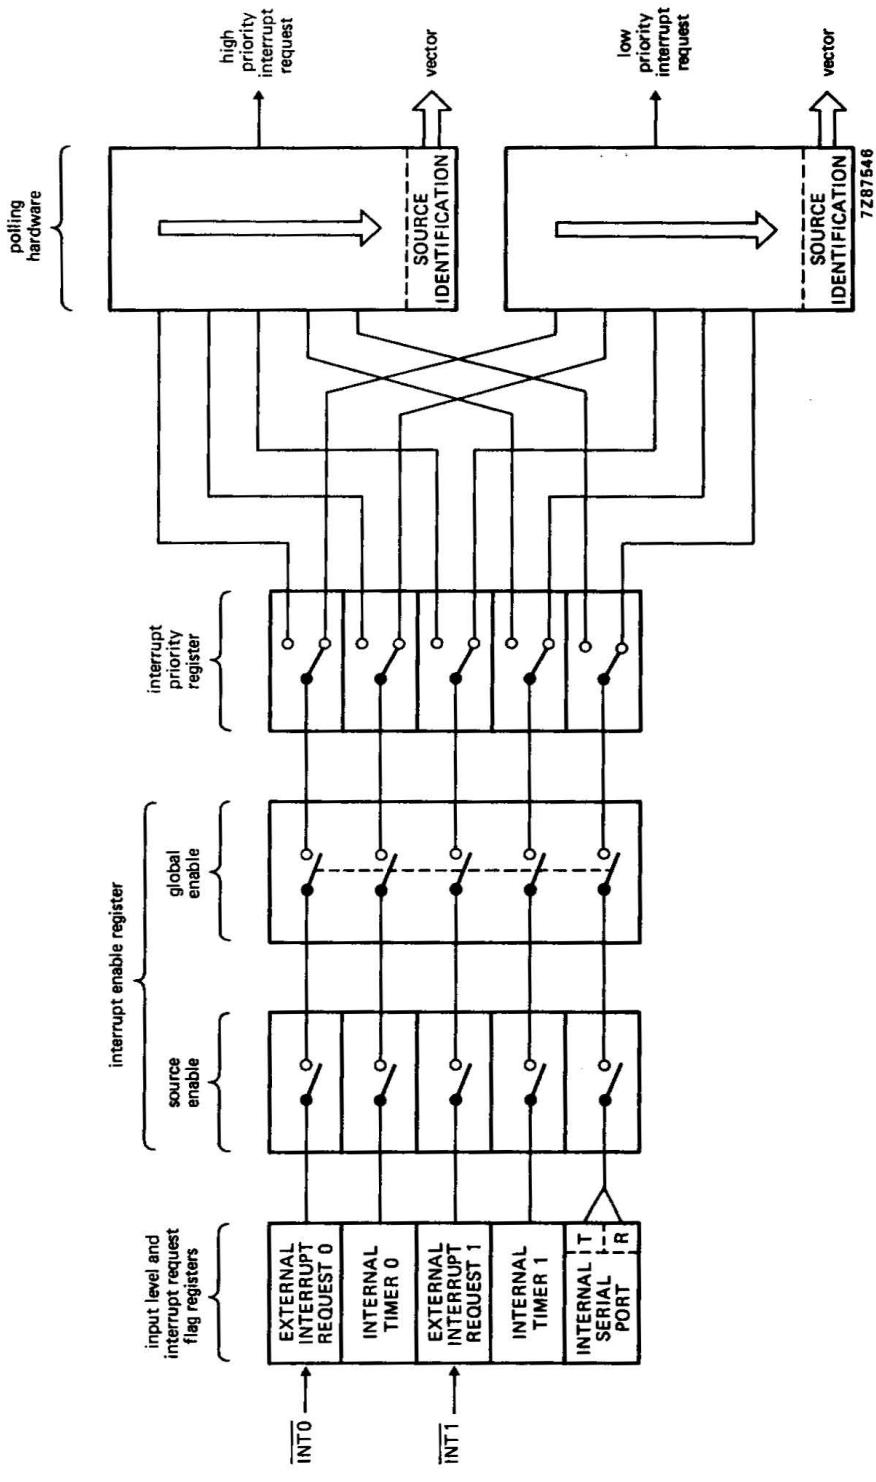

Fig. 5 Interrupt system.
**Interrupt system (see Fig. 5)**